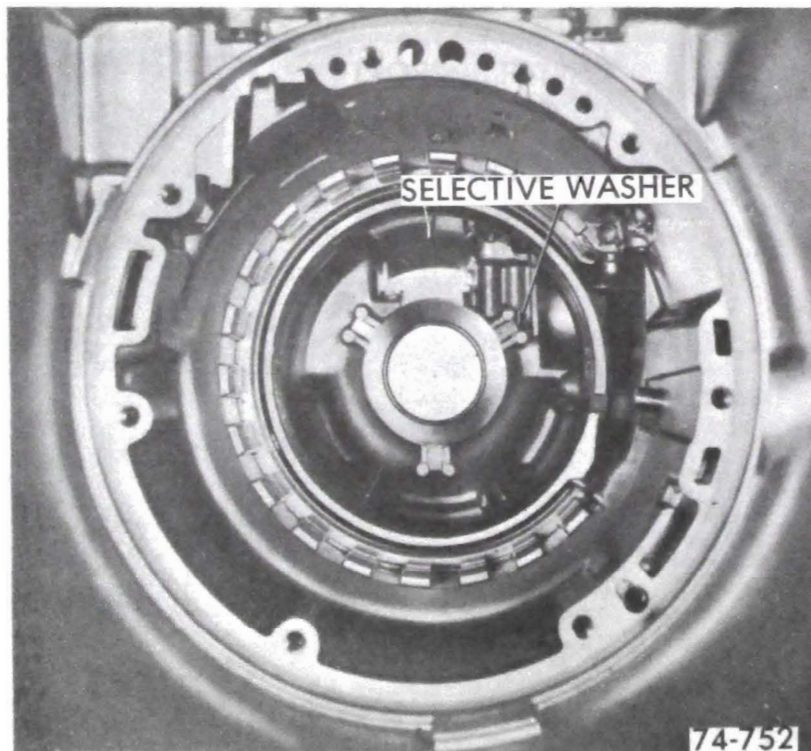

Figure 76-248
8. Lubricate and install gear selective washer into slots provided inside rear of transmission case. See Figure 76-248.